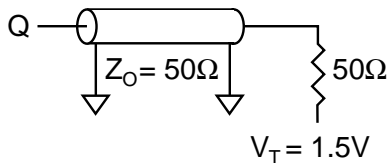
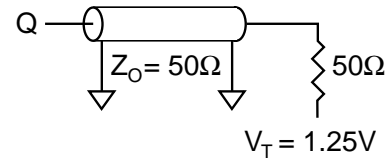

Figure 1
Figure 3
1. Test conditions as specified with the output loading shown in Figure 1 for 3.3V I/O ($V_{DDQ} = +3.3\text{V} +0.3\text{V}/-0.165\text{V}$) and Figure 3 for 2.5V I/O ($V_{DDQ} = +2.5\text{V} +0.4\text{V}/-0.125\text{V}$).
Output load	See Figures 1 and 2
Output load	See Figures 3 and 4